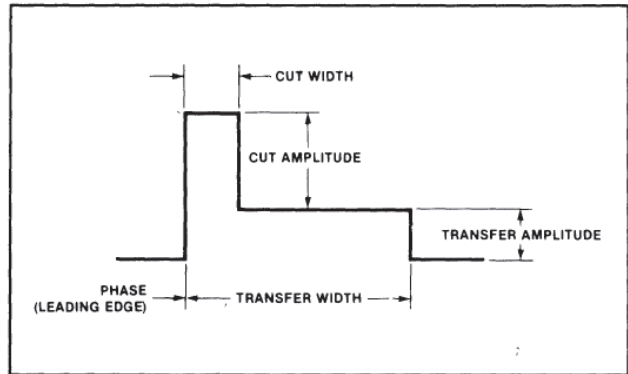

Figure 7. Control Pulse Waveform
3. Pulse timing is given in terms of the pulse relations as shown in Figure 7. For example, a 7110 operating at $f_R = 50\text{ kHz}$ would have a REP.A transfer width of 90° which is $5\ \mu\text{s}$.